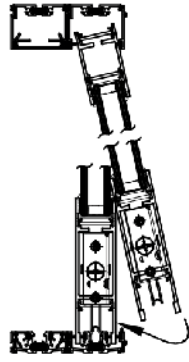

FIGURE 10B
15. If you have a staggered track door, you will need to temporarily remove the head and sill track end caps (Part #17, #18) to avoid clearance issues. For info on removing and installing staggered track end caps, consult Appendix A. Install the interior panel into the second closest track and slide it into the pocket halfway. Once in position, move panel to the interior track. Then install remaining panels so that the interlocks overlap correctly, per figures 10b and 10c. Use a putty knife if necessary to lift rollers over the roller track. Once in place, remove the string from under the rollers.